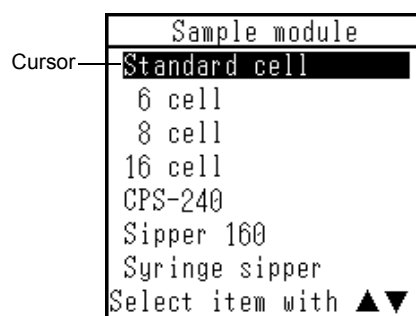

Fig. 18.2 Sample Module Selection screen
- 2 If you wish to change the sample module, press the **F1** [Sample module] key. The Sample Module Selection screen will be displayed (Fig. 18.2).
When you select [6 cell], [8 cell], [16 cell] or [CPS-240] in the Sample Module screen (Fig. 18.2), the Sample Compartment Control screen (Fig. 18.3) will be displayed.
The sample module selected in Fig. 18.2 is displayed.
When you select [Sipper 160] in the Sample Module Selection screen (Fig. 18.2), the Sample Compartment Control screen (Sipper 160) (Fig. 17.4) will be displayed.
When you select [Syringe sipper] in the Sample Module screen (Fig. 18.2), the Sample Compartment Control screen (syringe sipper) (Fig. 18.6) will be displayed.